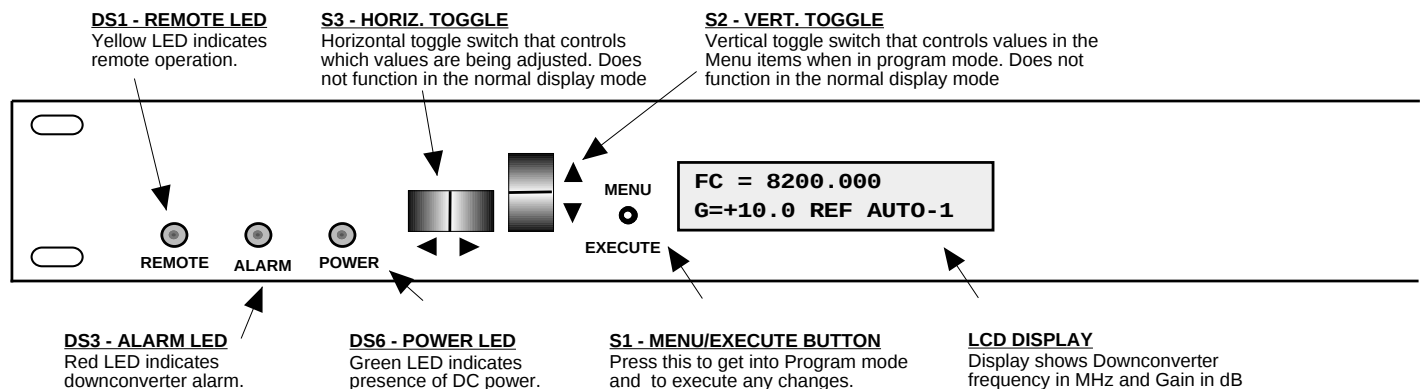

FIGURE 2.3 3116-76-1200 Front Panel Controls and Indicators
Figure 2.3 shows the front panel controls and indicators.
6. Be sure DS6 (green, DC Power) is on and DS3 (red, Alarm) is off (Figure 2.3).
Alarm indications appear on the LEDs (see figure 2.3).